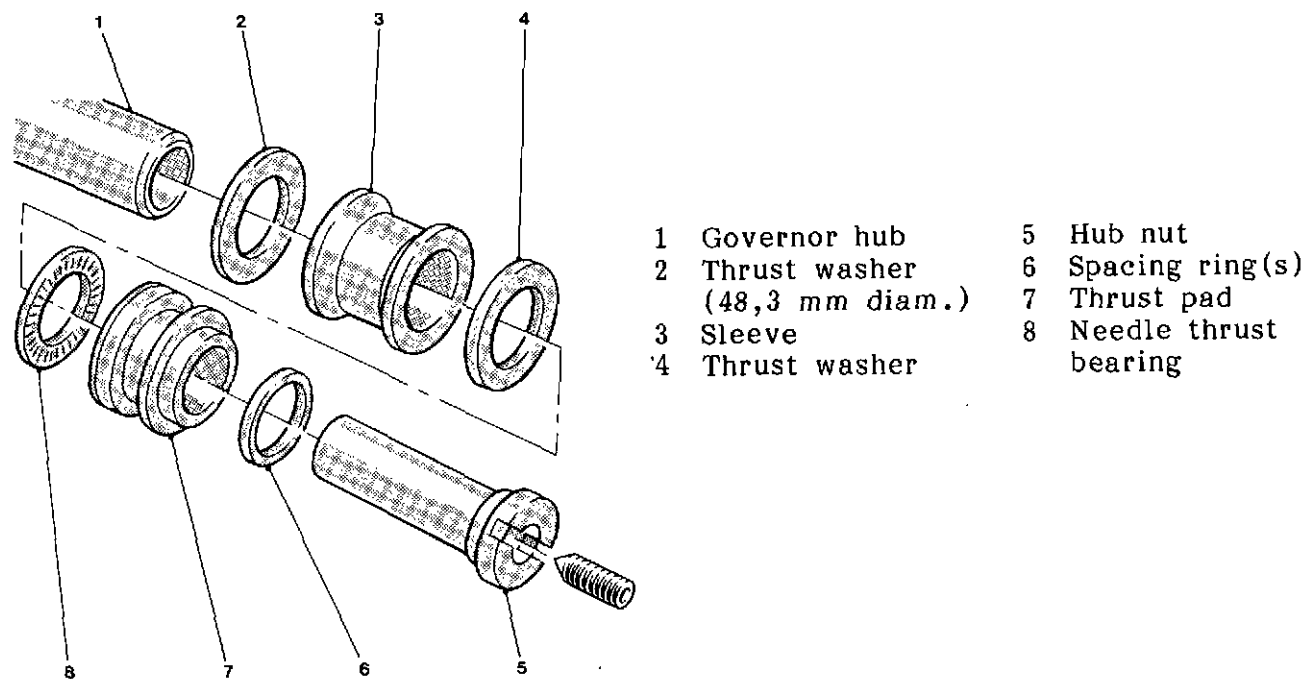

Fig. 18 Hub components
- 33 Using the Hub Extractor, ST 202, withdraw the complete governor hub assembly (fig. 17), from the camshaft tapered end and separate the components (fig. 18).